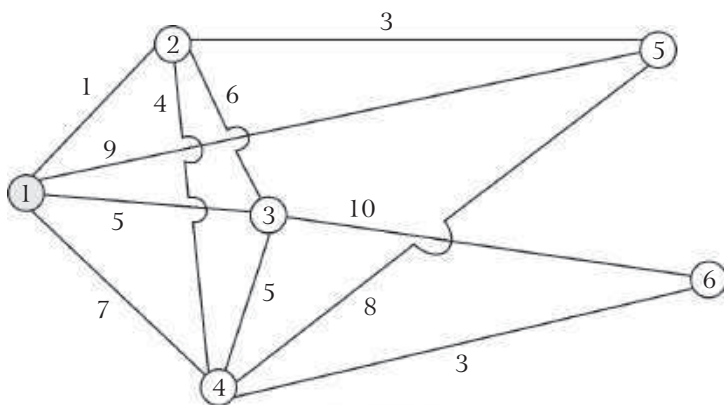

Fig. 8.46
6. The mid west TV cable company is in the process of planning a network for providing cable TV service to five new housing development areas. The cable system network is summarised in figure 8.46. The numbers associated with each branch represent the kilometers of cable needed to connect any two locations. Node 1 represents the cable TV station and the remaining nodes (2 through 6) represent the five development areas. A missing branch between two nodes implies that it is prohibitively expensive or physically impossible to connect the associated development areas. It is required to determine the links that will result in the use of minimum cable kilometers while guaranteeing that all areas are connected (directly or indirectly) to the cable TV station.
7. Find the minimal spanning tree of the network in figure 8.46 if nodes 5 and 6 are also linked by a 2 kilometre cable.